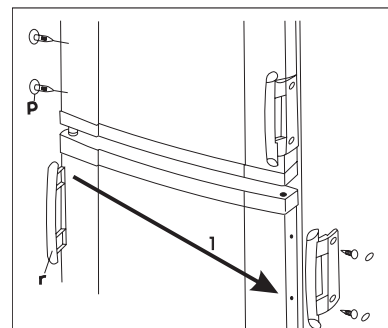

fig. 5.
20. Put over the handles (r) on the other side and put the plastic covering nails (p) supplied in the plastic bag of this instruction book into the holes set free. (fig. 5)